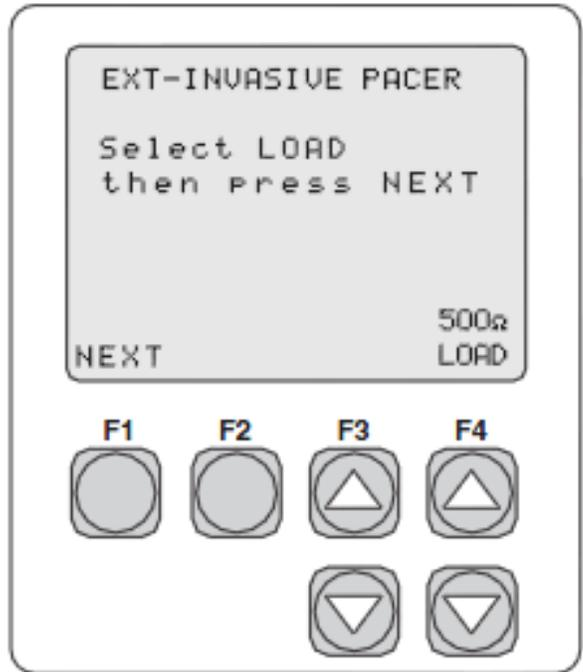

Fig 3
- Depress “F1” (NEXT) to accept a 500 Ohm load as a test load. Figure 3
On the FLUKE, return to the main Menu screen by pressing the “Esc” key. If at the main menu, of the SigmaPace, as in Fig. 3, press F4 “>>>” to forward to the next menu screen.